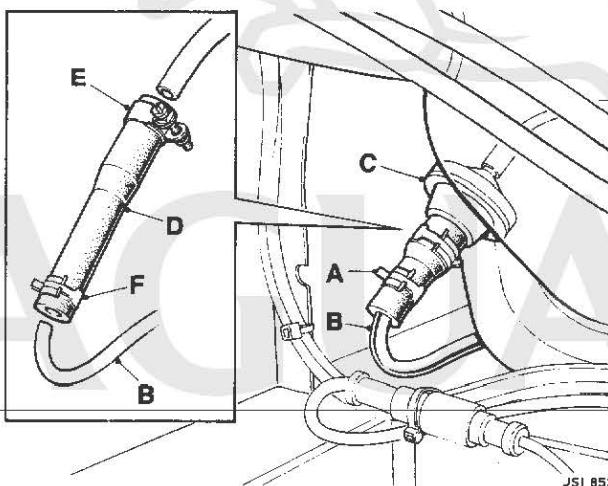

FIG. 1
2. Using a suitable pair of pliers, slacken the spring clip (Fig. 1 A) to enable the vapour pipe (Fig. 1 B) to be disconnected from the hose.
4. Remove the valve (Fig. 1 C) from the plastic vapour pipe. Remove the hose from the valve and place the valve to one side.
6. Fit the larger bored end of hose, Part Number CAC 1853/5, (Fig. 1 D) to the fuel tank plastic vapour pipe. Secure with the hose clip, C43599/6 (Fig. 1 E).
8. Refit the underfloor vapour pipe to the other end of the hose and secure with spring clip, CAC 8772 (Fig. 1 F).